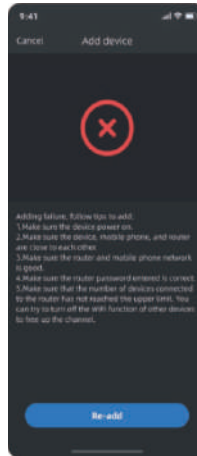

Figure 5
5) Figure 5: Refer to the prompt and add the device again.